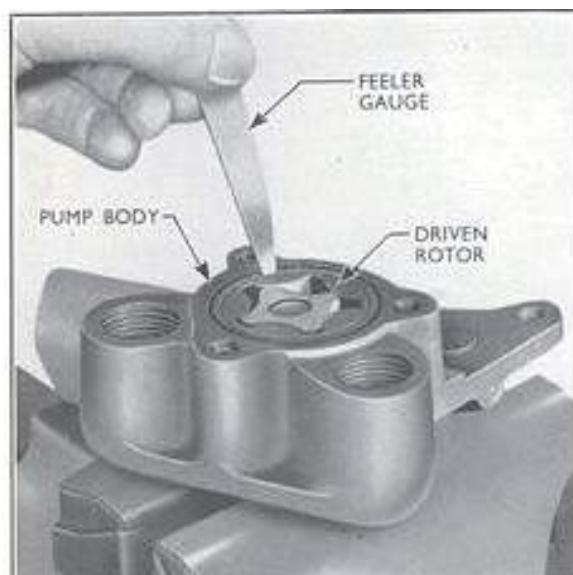

Fig. 34
3. Check the clearance between the driven rotor and the pump body as shown in Fig. 34. If the clearance exceeds 0.016 in. (0.254 mm.) replace the pump body and rotor assembly.